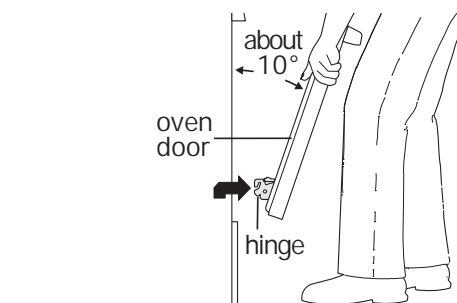
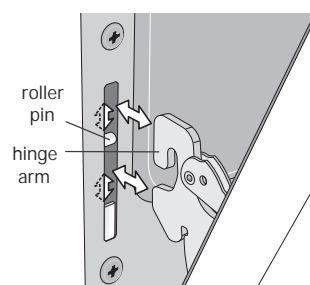

Figure 26: Holding door for removal
Figure 27: Replacement and location of hinge arm and roller pin
3. Firmly grasp both sides of oven door along the door sides. Do not use the oven door handle (See Figure 26).
4. Close the door to approximately 10 degrees from the door frame (See Figure 26).
5. Lift the oven door hinge arms over the roller pins located on each side of the oven frame (See Figure 27).
1. Firmly grasp both sides of oven door along the door sides. Do not use the oven door handle (See Figure 26).
2. Holding the oven door at the same angle as the removal position, seat the hook of the hinge arm over the roller pins located on each side of the oven door frame (See Figure 26 and Figure 27). The hook of the hinge arms must be fully seated onto the roller pins.